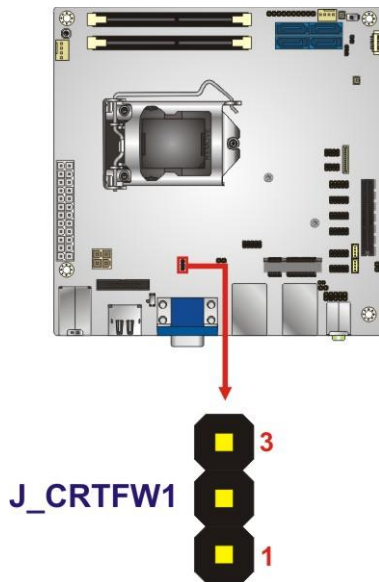

Figure 3-27: VGA Firmware Update Connector Location
- CN Location:** See **Figure 3-27**